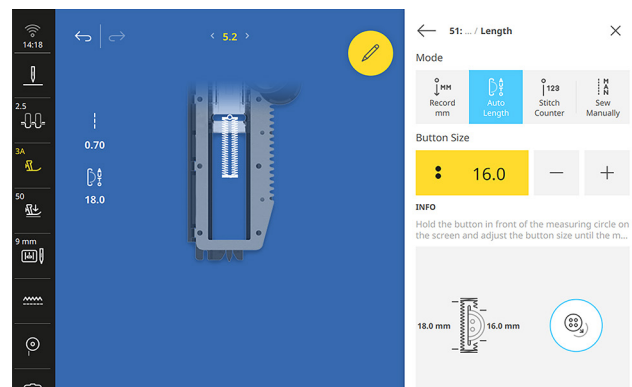

Fig. 33
5.  Tap Length, and then Auto Length; hold your button up to measuring circle on the screen, then turn the Multi-function Knob until the circle and the button match in size (Fig. 33).